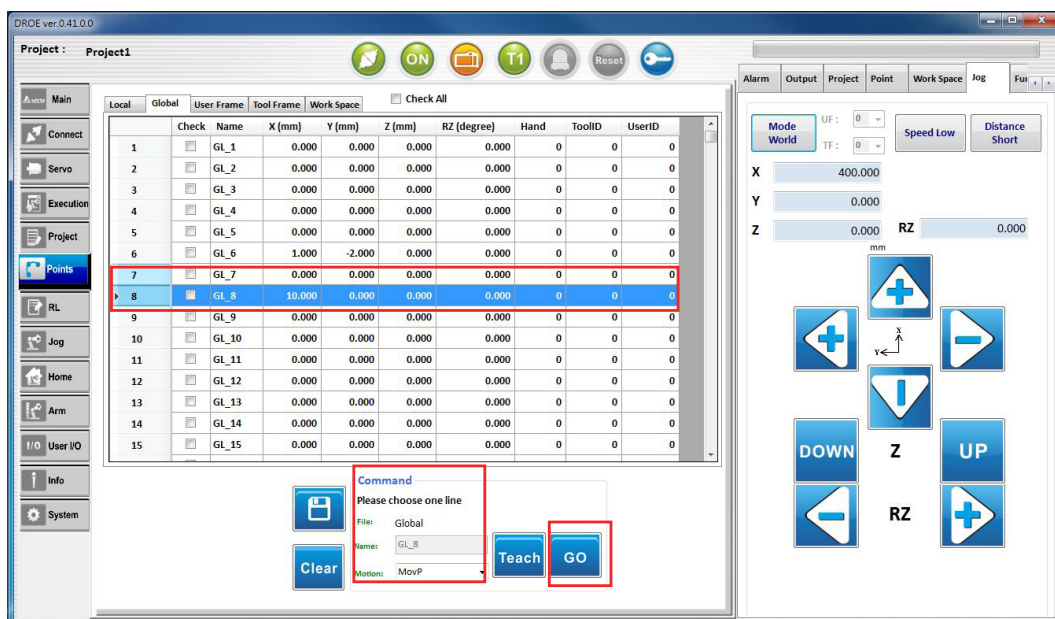

Fig.27 GO (move to point position)
4.GO (move to point position), as shown in Fig.27: